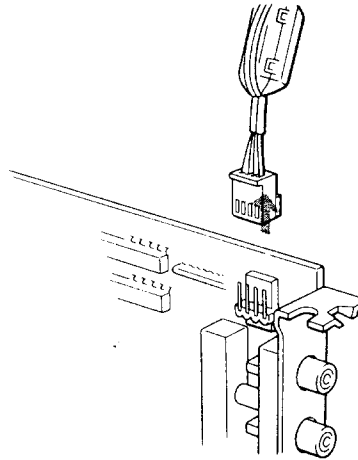

Figure 4-3. Attaching the Audio Connector Cable to the Card (Model CDB-241/CDB-244)
- 2 Attach the other end of the cable to the audio connector on the Model CDB-241 or CDB-244. For proper attachment, position the cable connector as illustrated in Figure 4-3.